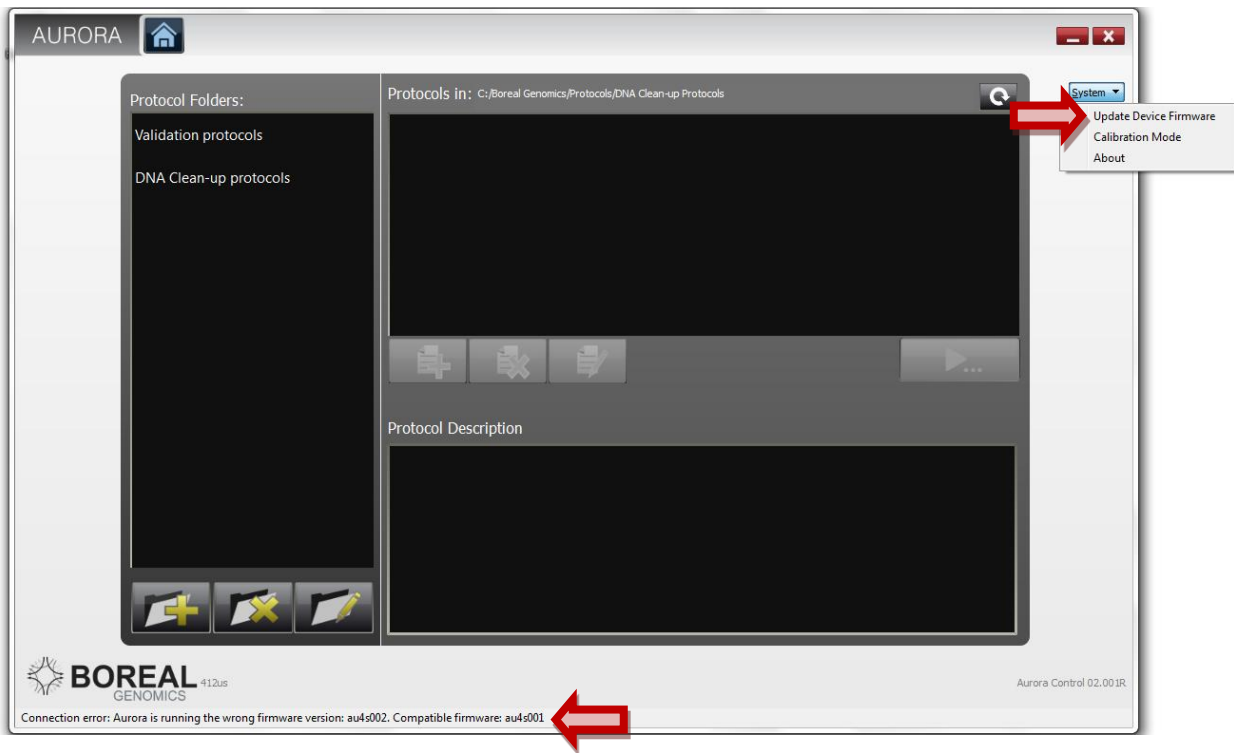

Figure 26. Aurora control - DFU mode selection
Power on the Aurora instrument and start the Aurora control software. The control software should detect the instrument connected – check that the status bar in main window displays the message “Aurora detected but is running the wrong software version” as in **Figure 26**. If the software shows that an Aurora is connected normally, do not proceed; the upgrade process is complete.
1. From the home screen, select System and Update Device Firmware (highlighted in **Figure 26**). Enter scoda123 as password. A pop-up window will announce that the device has entered DFU mode and the status bar will indicate the instrument has been disconnected. At the same time Windows 7 will detect a new device connected to USB.